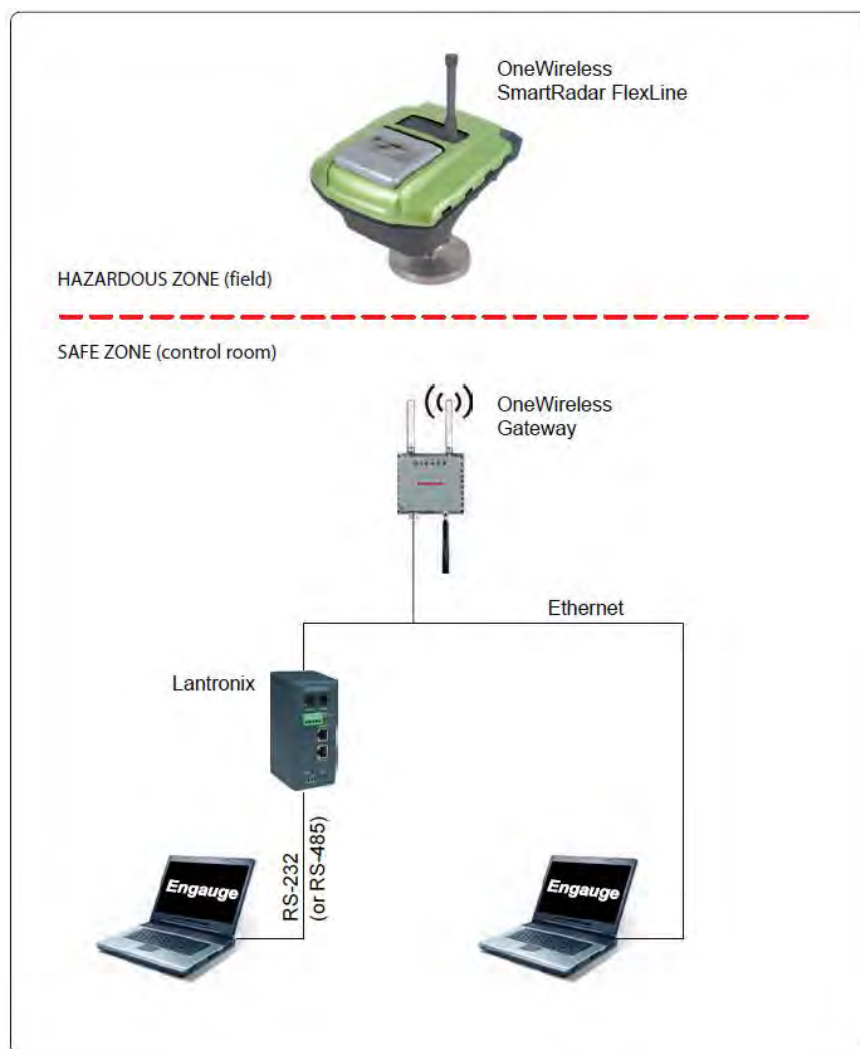

FIGURE 4-35 Connecting the Engauge service tool - OneWireless
4.3.1.2 OneWireless Situation (FIGURE 4-35)